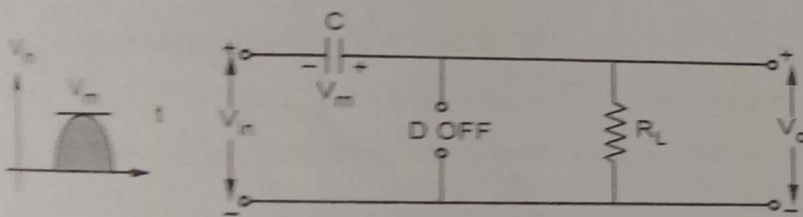

Fig. Q.50.3
• In the positive half cycle, the diode D is reverse biased. The capacitor starts discharging through R_L . But due to large time constant, it hardly gets discharged during positive half cycle of V_{in} . This is shown in the Fig. Q.50.3.